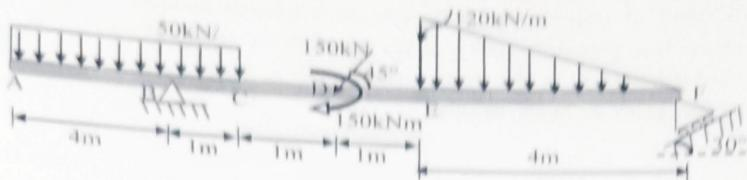

Fig 2.94
- 11) Find the reactions at supports B and F for the beam loaded as shown in the fig 2.94 below. (Ans: 360kN, 449.45kN, 293.22kN)